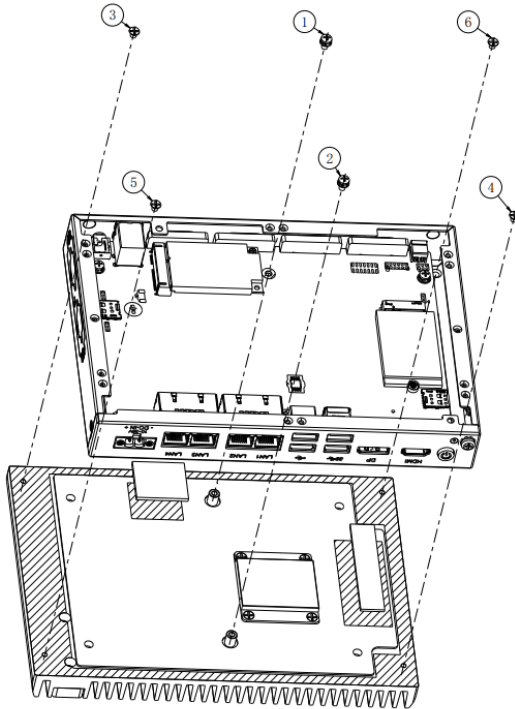

Figure 3.1-2
2. Remove the two M3x6 spring screws in the middle of the motherboard and the four M3x4 screws in the four corners of the chassis, and remove the top cover (aluminum extrusion); as shown in Figure 3.1-2.